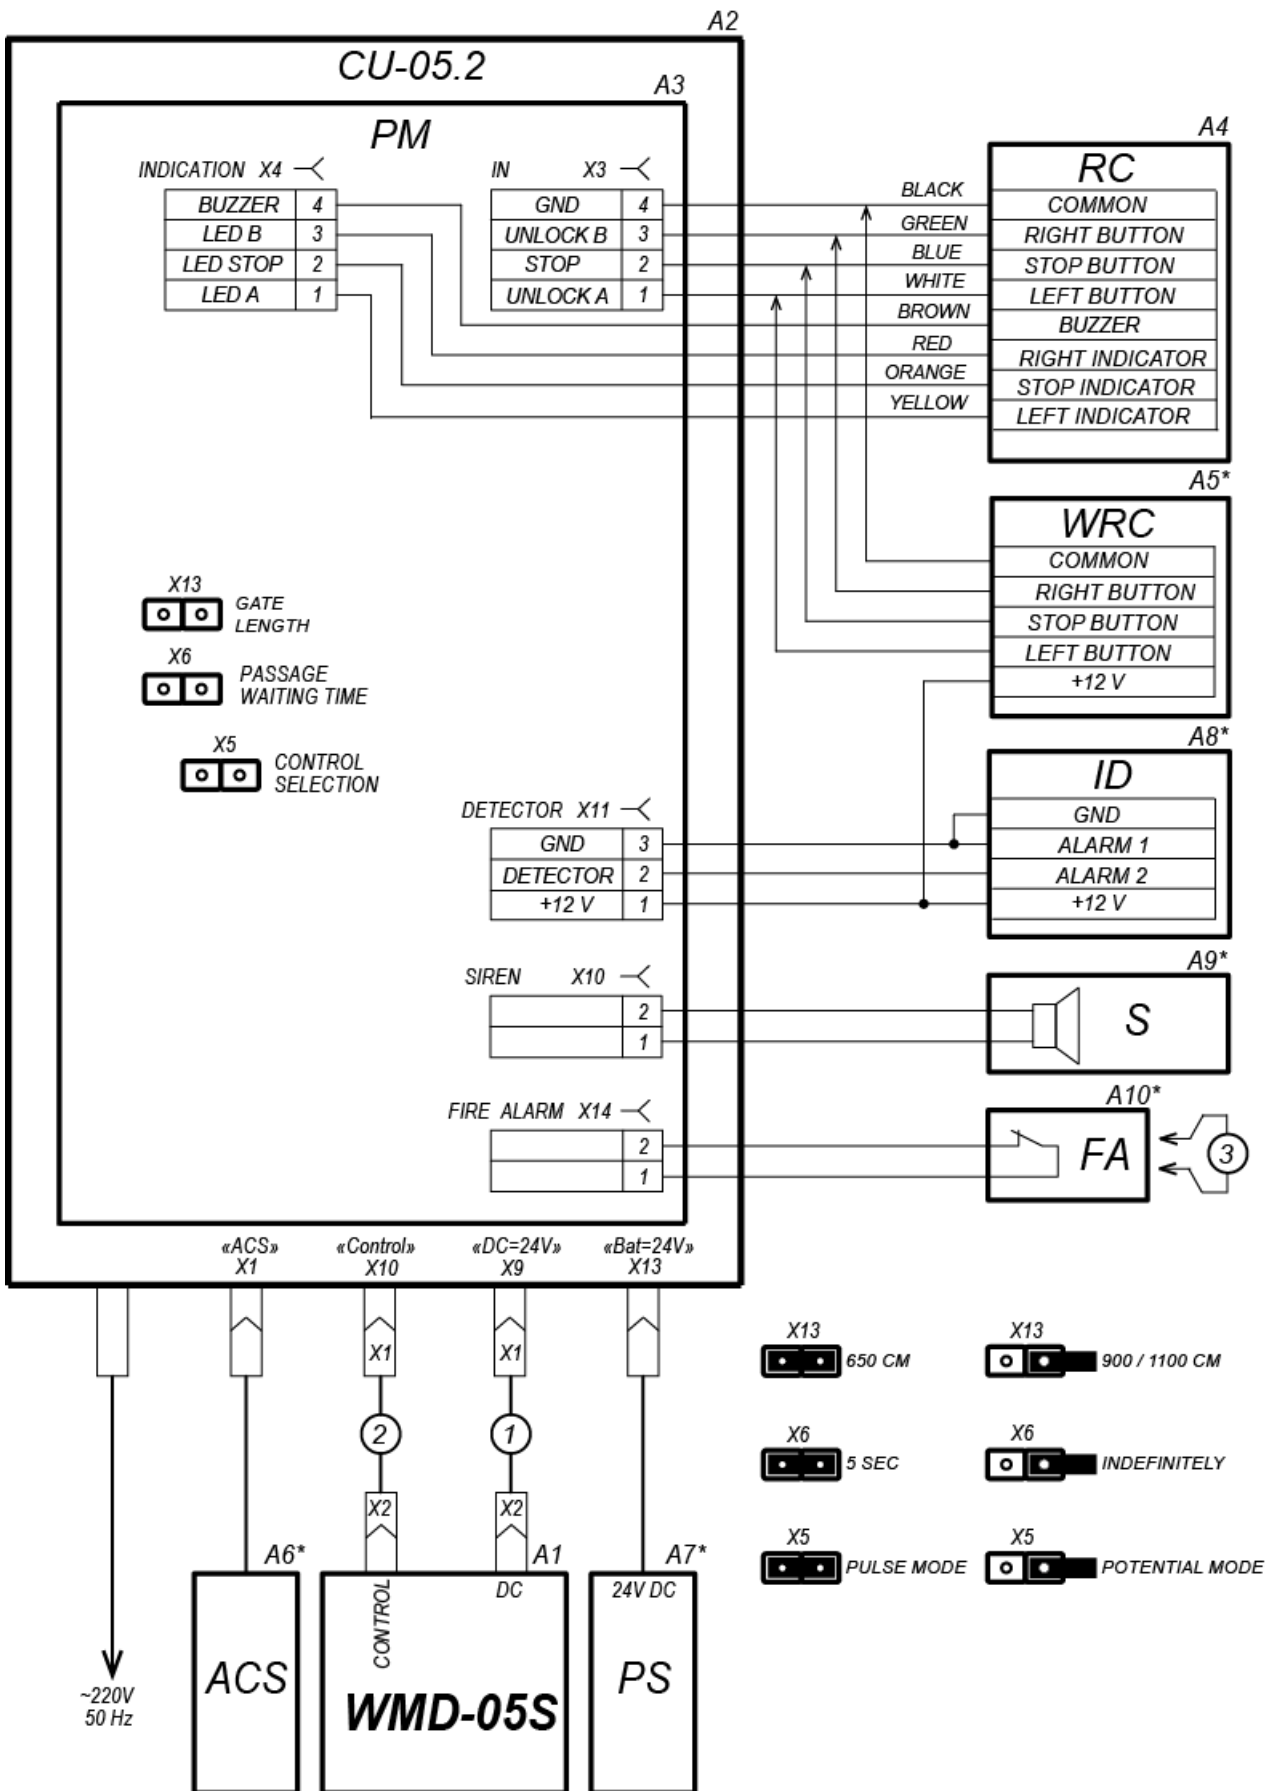

Figure 7. Connection layout of the swing gate¹
- power cable (11) to «**DC=24V**» connector;
- pull the RC-panel cable (12) through the RC-panel cable entry inside the CU and connect to the **X3** and **X4** connector blocks of the processor module in accordance with Fig. 5 and Fig. 7.